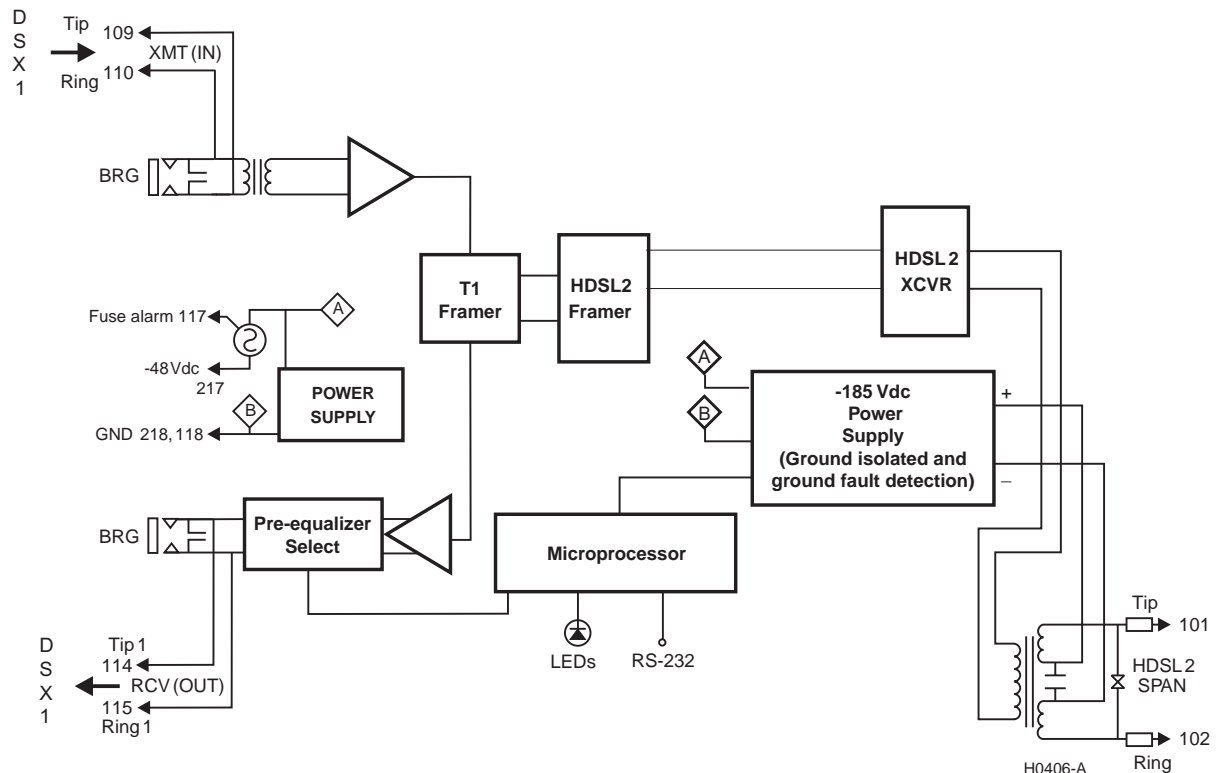

Figure 31. H2TU-C Block Diagram
Figure 31 shows a block diagram of the H2TU-C. The H2TU-C receives a 1.544 Mbps DSX-1 data stream from the DSX-1 digital cross connect interface. The H2TU-C contains a DS1 frame synchronizer controlled by a 16-bit microprocessor that determines the type of framing on the DS1 stream and synchronizes to it. The H2TU-C recognizes Superframe (SF), including D4 or Extended Superframe (ESF) framing.